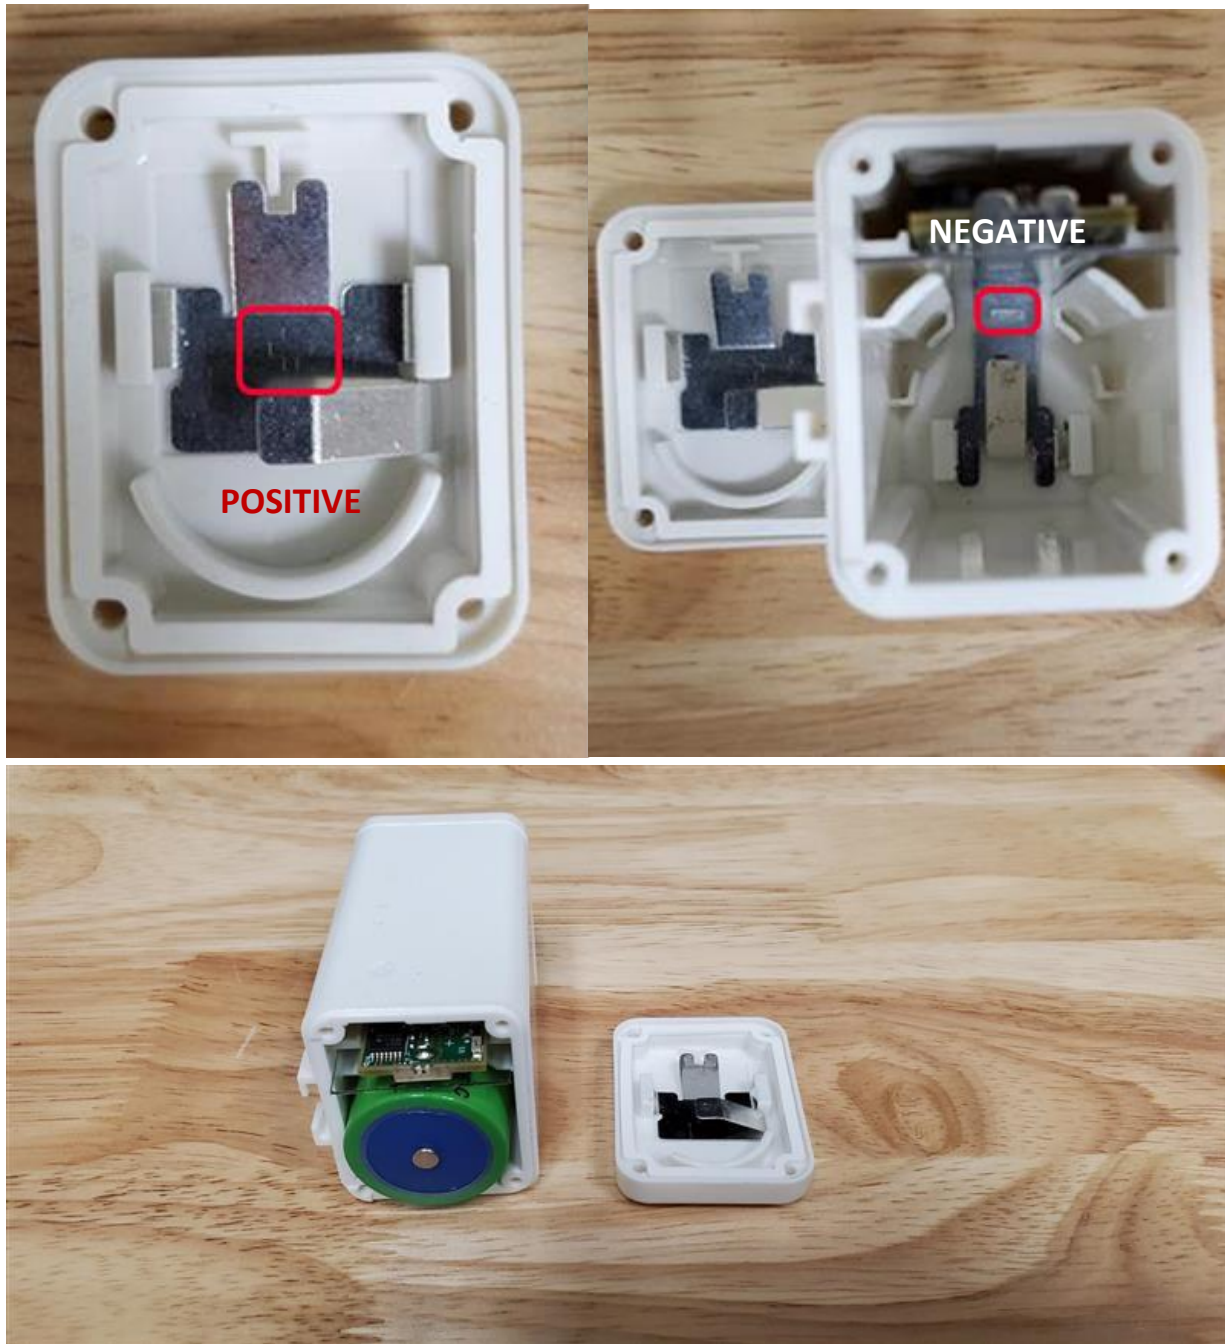

Figure 2-9: Battery Polarity Markers and Insertion
3. Remove the used battery and replace it **ONLY** with a new 3.6V XENO XL-145F battery [5]. When inserting the new battery, insert the negative terminal side first. The battery contacts are marked with their proper polarities (see Figure 2-9), with the positive terminal marked with a plus-sign (+), and the negative with a minus-sign (-).